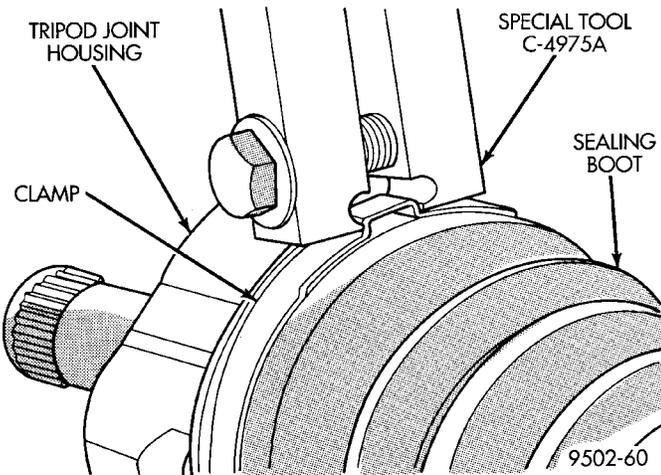
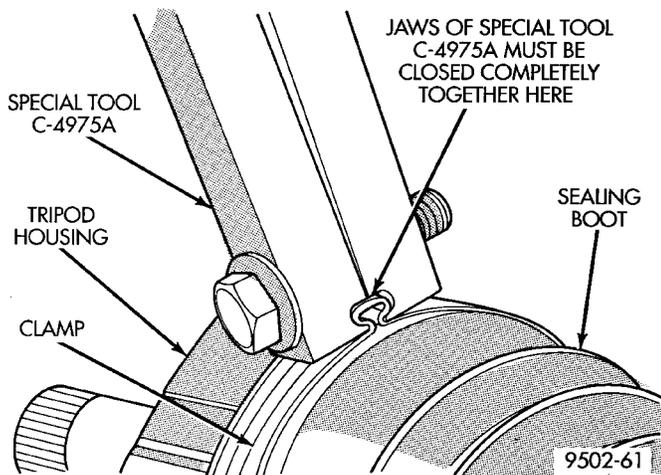

Fig. 40 Crimping Tool Installed on Sealing Boot Clamp
Fig. 41 Sealing Boot Retaining Clamp Installed
(11) Clamp tripod joint sealing boot to tripod joint using required procedure for type of boot clamp application. If seal boot uses crimp type boot clamp, clamp sealing boot onto tripod housing using crimper, Special Tool C-4975-A. Place crimping tool C-4975-A over bridge of clamp (Fig. 40). Tighten nut on crimping tool C-4975-A until jaws on tool are closed completely together, face-to-face (Fig. 41).